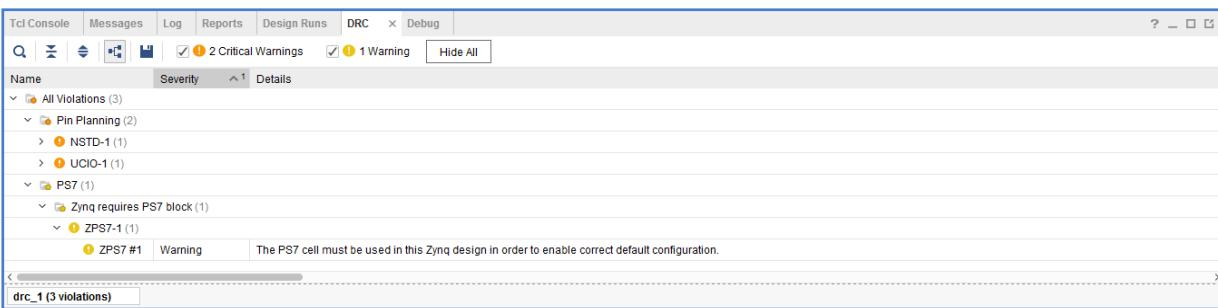

Figure 6.14: DRC Report
- **Report DRC:** Performs design rule check on the entire design. DRCs performed early in the design flow allow for correction before a full implementation. We can select which DRCs we would like to run, see Figure 6.14, or we can select to run all. Objects listed in the violations are cross-selectable with HDL sources. Any problems will open a DRC window at the bottom of the Vivado GUI. If you would like to see the final sign-off DRC, run the implementation process.